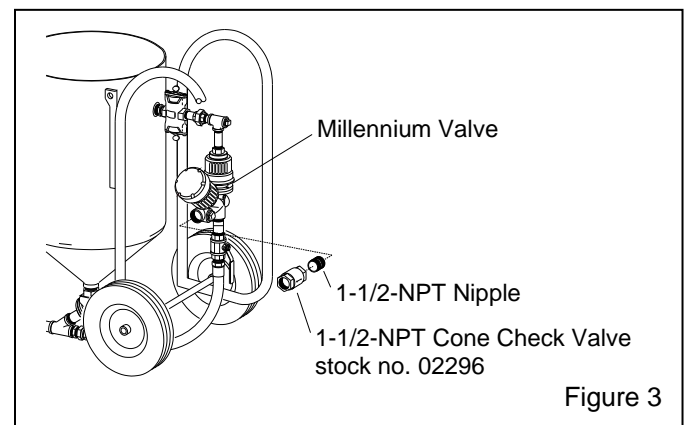

Figure 3
**2.2.1** Where multiple blast machines are operating from a single air source, install a ball-cone check valve at the air supply on each machine. Refer to the illustration in Figure 3 to install the check valve.